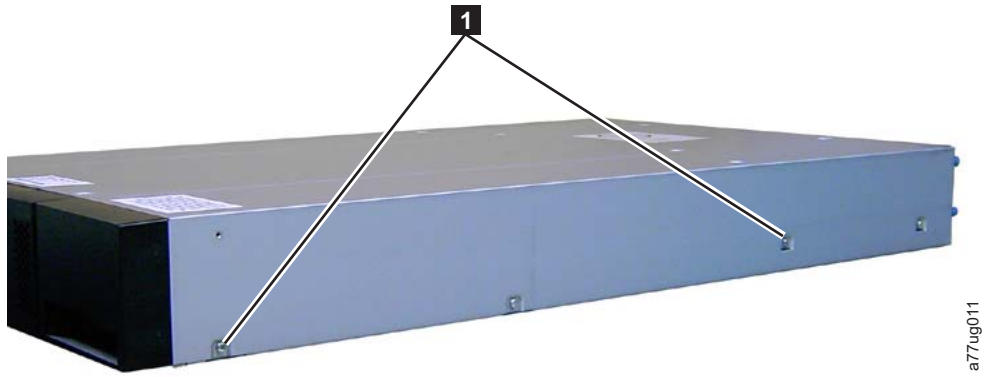

Figure 4-10. 2U library side screws to remove
4. Using the Torx wrench included in your shipment, remove the screws (**1**) as shown in Figure 4-10 on page 4-10. Screw locations on the 4U library are similar.